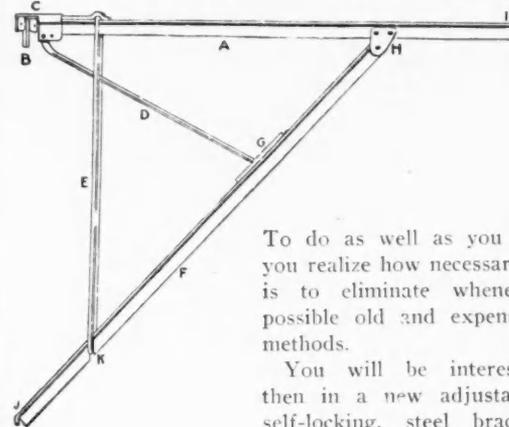

Fig. 1. In Position
Fig. 1 shows the bracket clamped to siding ready for use.
Fig. 2, the scaffold folded for shipping. Referring to Fig. 1, the arm (A) on which rests the standing board is 3 1/2 feet long and made of 1 1/4-inch tee steel 3/16 of an inch thick. The hook (B) which clamps on to the siding is 2 1/2 inches long and 1 1/4 by 5/16 inch steel.